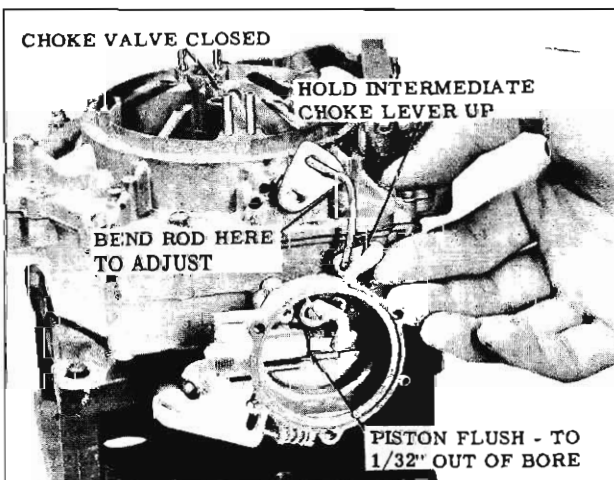

Fig. 4-23 Intermediate Choke Rod Adjustment
1. With the choke cover and baffle removed, position the fast idle screw on the high step of the fast idle cam. Raise the intermediate choke lever to its full up position then push lightly on the end of choke piston to remove all lash in the linkage, check to see if the choke position is flush to $1/32''$ out of the choke piston bore. (Fig. 4-23)